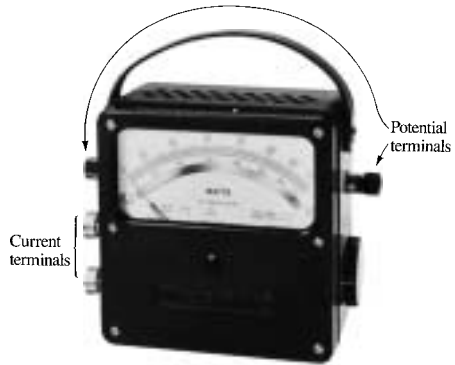
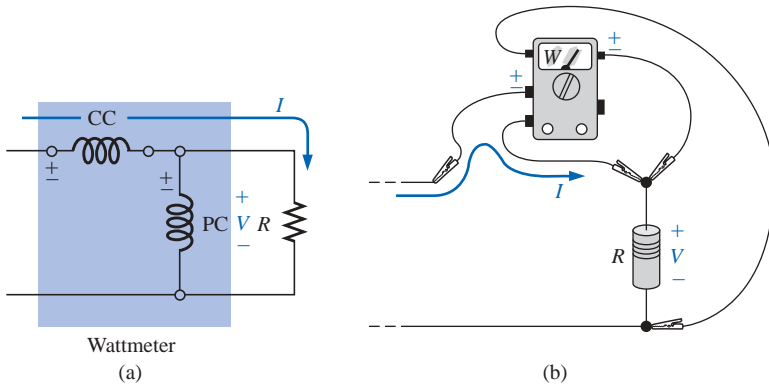

FIG. 4.16
FIG. 4.17
As one might expect, there are instruments that can measure the power delivered by a source and to a dissipative element. One such instrument, the **wattmeter**, appears in Fig. 4.16. Since power is a function of both the current and the voltage levels, four terminals must be connected as shown in Fig. 4.17 to measure the power to the resistor R .
If the current coils (CC) and potential coils (PC) of the wattmeter are connected as shown in Fig. 4.17, there will be an up-scale reading on the wattmeter. A reversal of either coil will result in a below-zero indication. Three voltage terminals may be available on the voltage side to permit a choice of voltage levels. On most wattmeters, the current terminals are physically larger than the voltage terminals to provide safety and to ensure a solid connection.